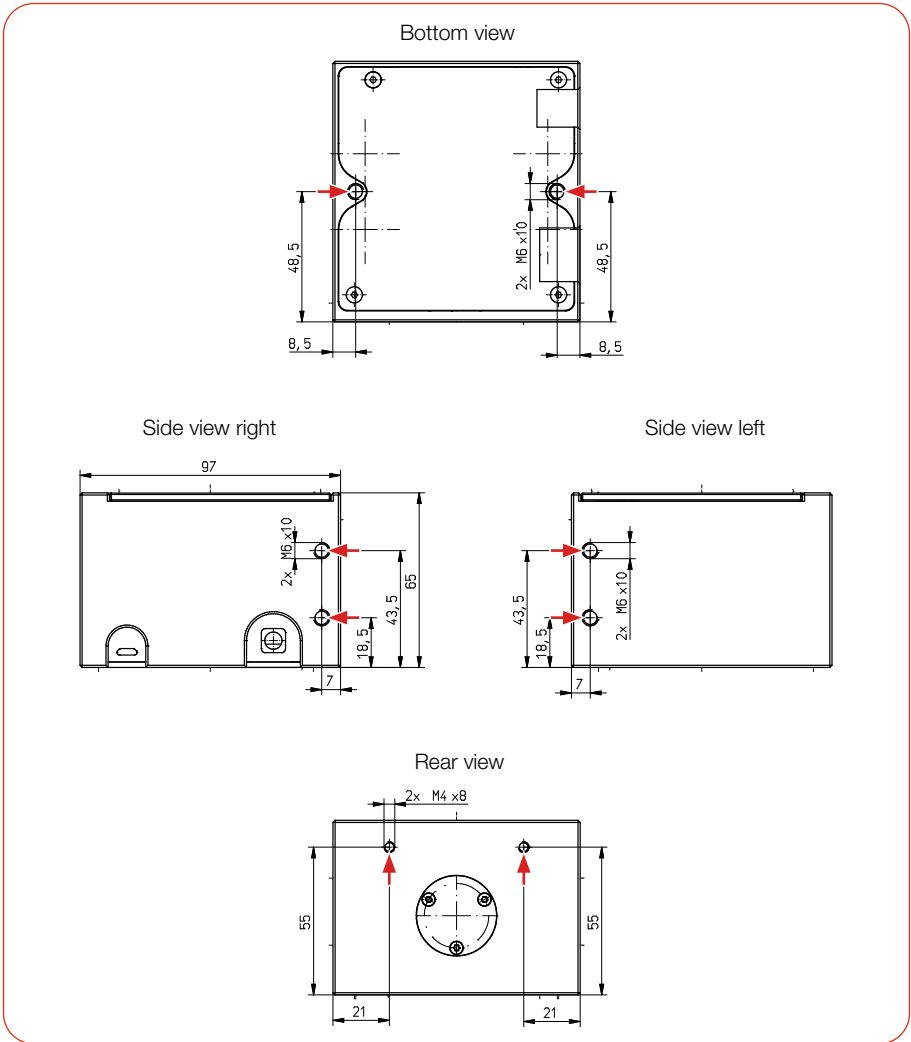

Fig. 7.2: Mounting threads in the housing (dimensions in mm)
1. Mount the device on the mounting threads according to Fig. 7.2 on page 22. The total length of the screws depends on the dimensions of the customer's bracket.
3. Unscrew the mounting screws (see Fig. 7.2 on page 22).